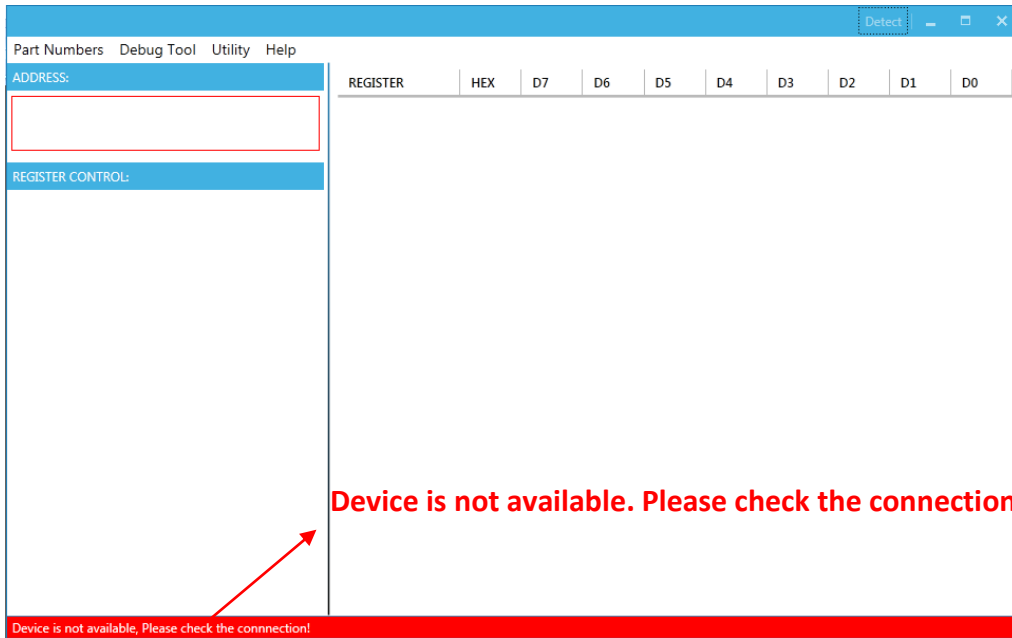

Figure 9: Warning Indicates Unsuccessful Connection – USBI2C Communication Interface Devices not Connected
- 2) “Device is not available. Please check the Connection!” This means that the USB I2C communication interface device is not connected (see Figure 9).
The screenshot shows the same software window as Figure 9, but now it displays a table of I2C register values. The window title is 'MP5470-12V POWER MANAGEMENT IC WITH I2C'. The 'ADDRESS:' field contains '68'. The 'REGISTER CONTROL:' section has three dropdown menus: 'MTP CONFIGURE', 'BUCKCTRL', and 'SYSCTRL'. The table on the right lists registers and their bit values.